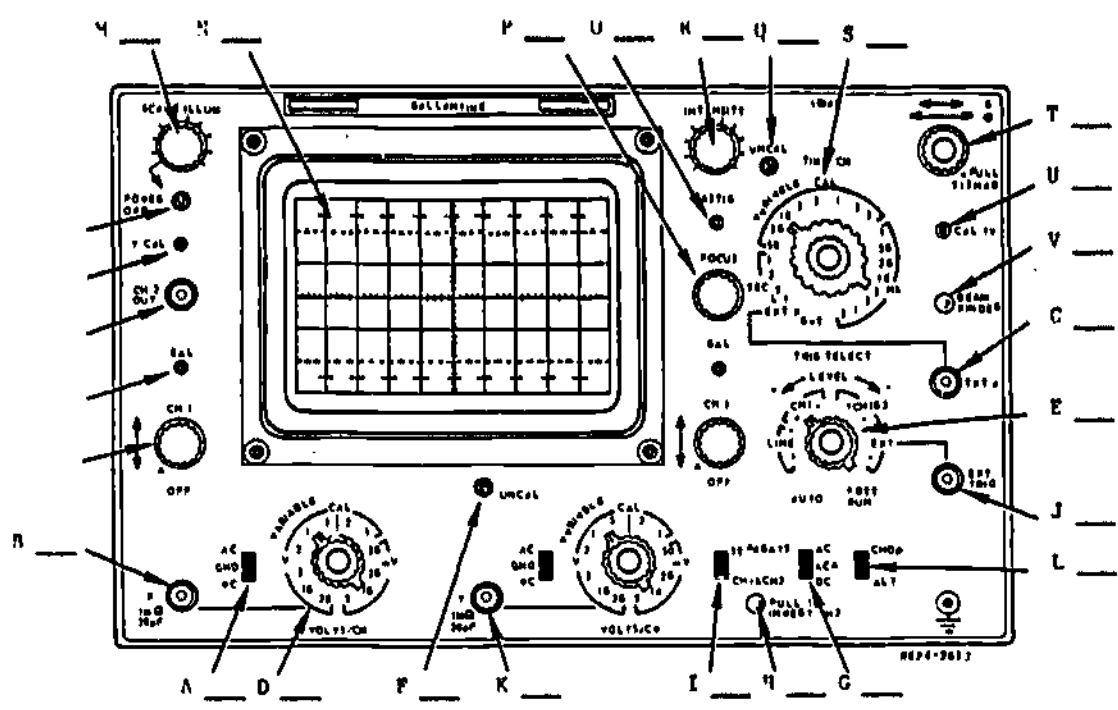

Figure 1-1. AN/USM-398 Front Panel Controls, Indicators, and Connectors
3. Using table 1-1 and the actual oscilloscope, locate each control and fill in the CALL OUT number on figure 1-1.